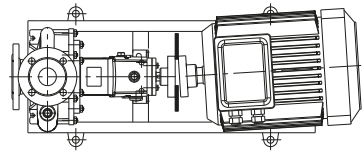

Figure 10a. Angle error in horizontal plane and adjustment
- In order to control the angular mistake, the distance between two parts of the coupling should be measured mutually on horizontal and vertical planes. The clearances measured at these four points should be equal (Figure 10a,10b).
- Adjustment mistakes may be on the horizontal and/or vertical plane. Mistakes on the vertical plane may be made by putting thin metal sheets under the pump or motor mounts and the mistakes on the horizontal plane by benefiting from the gaps in the connection holes or sliding the engine on the horizontal plane. Manner and order of the coupling adjustment is shown in the Figures 10a, 10b, 10c and 10d, respectively.